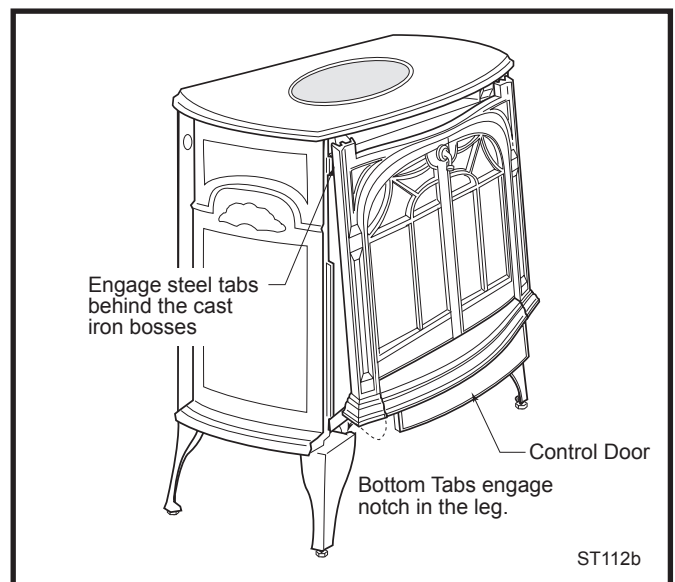

Fig. 19 Install the Front Plate. Your Front may look different from that shown.
2. Grasp the front plate by the window bars and lift into position engaging the two steel tabs behind the adjacent bosses in the side plates. (Fig. 19) Seat the front against the sides so the tabs at the bottom lip engage with the notches in the stove legs.